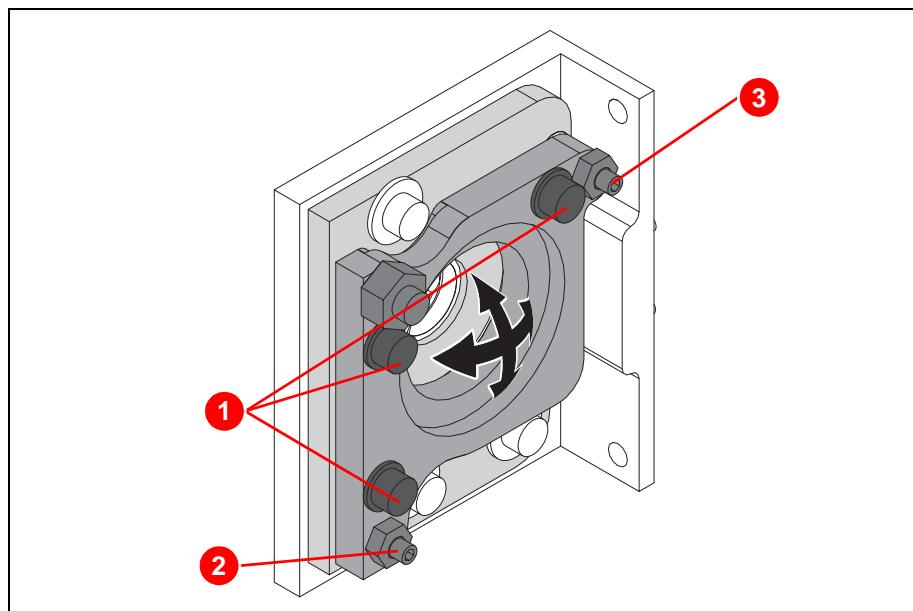

Figure 6.35 Angular setting of the beam expander
47. Loosen screws (1) (Figure 6.35) and adjust the angle of the beam expander using screws (2) in the horizontal direction and (3) in the vertical direction.
48. After the adjustment, tighten screws (1) by hand and carefully tighten screws (2) and (3).